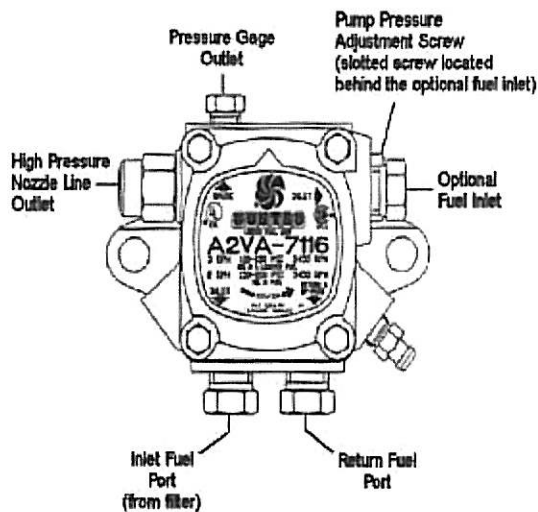

Figure 5-8. Burner Fuel Pump
- With heater off, remove pressure gage outlet plug as shown in Figure 5-8.